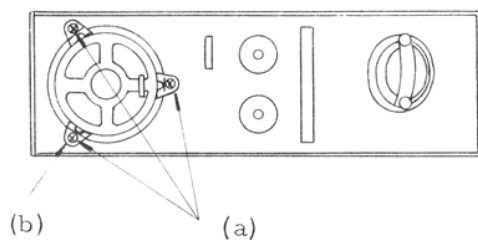

Fig. 12-1
- (1) remove three screws (a) as shown in Fig. 12-1,